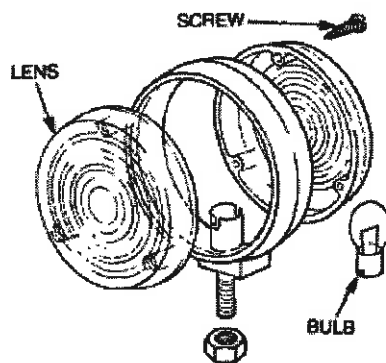

Figure 42 Side Indicator Light - Exploded View
- Replace the bulb (Figure 42).